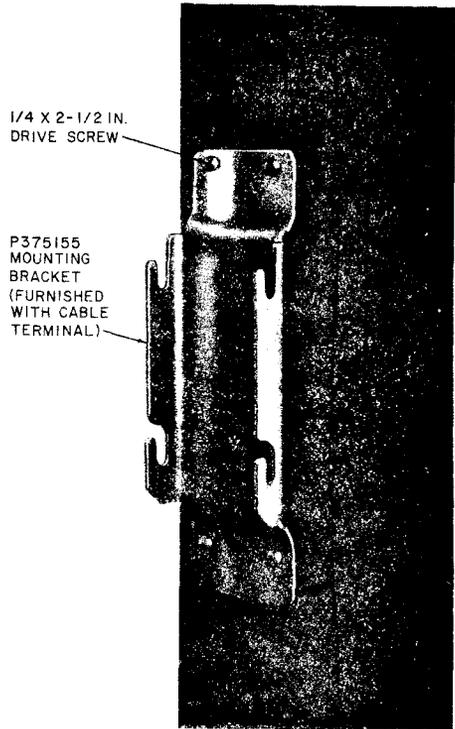

Fig. 25—P-375115 Mounting Bracket Attached to Pole
4.06 A P-375115 mounting bracket is furnished with each 25-pair N-type and each 53-type cable terminal. Attach the mounting bracket to the pole as shown in Fig. 25.